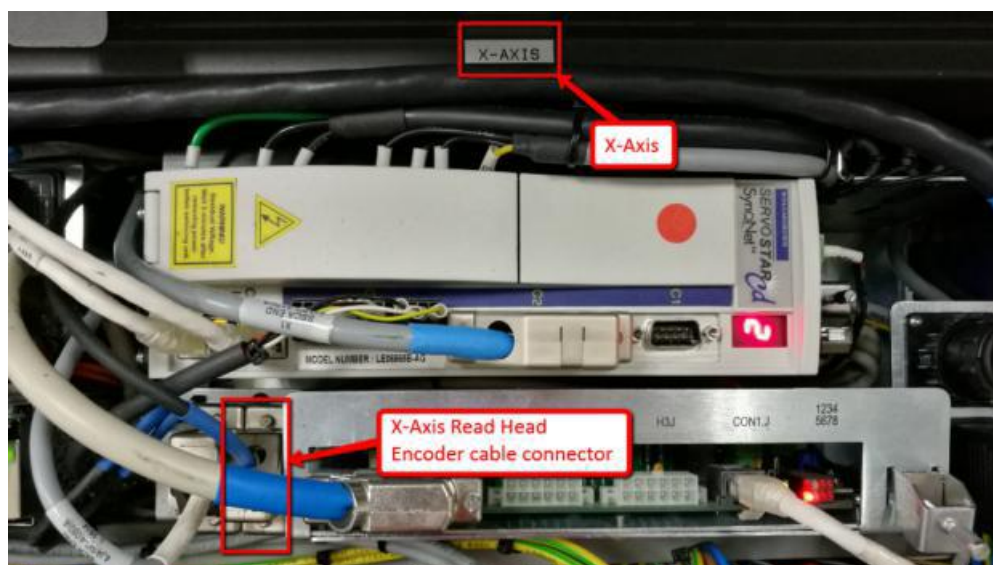

Figure 5
5. Loosen 2 screws and remove lead cover as shown in Figure 5.